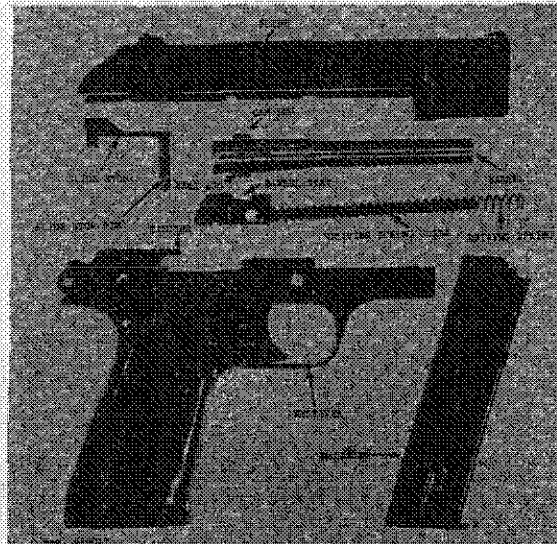
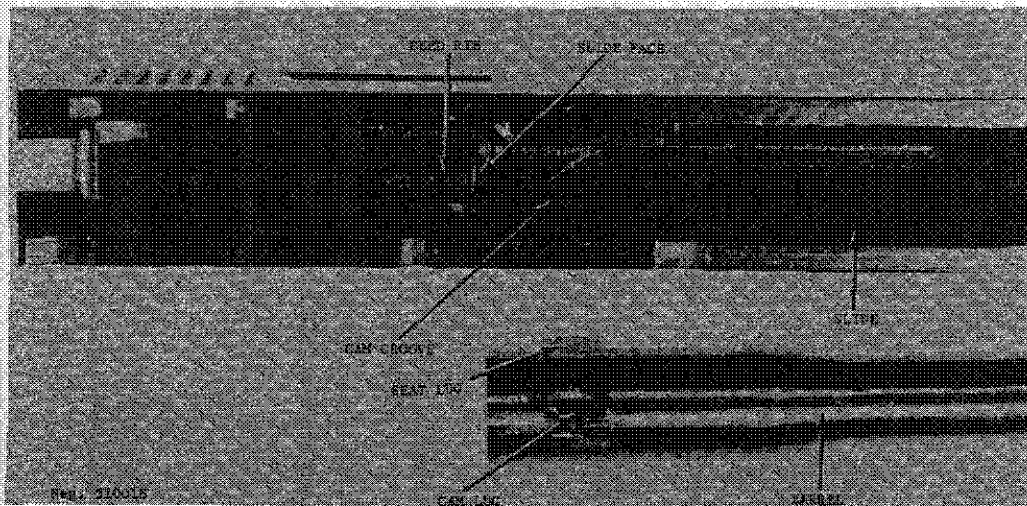

Figure 18. M.A.B. P15S disassembled.
Figure 19. M.A.B. P15 barrel and slide.
a. To disassemble the P15 pistol, first clear it (para 27d) but do not insert the magazine or press the trigger. Apply strong finger pressure to the end of the slide stop pin (fig 18) and, while applying pressure, pull the slide (fig 16) about 1/4 inch to the rear. The slide stop (fig 16) will move out to the left a short distance; pull it completely out.
b. Pull the slide forward, off the receiver. Turn the slide upside down and press the driving spring guide and barrel seat (fig 18) toward the muzzle until they disengage and can be lifted out of the slide. Move the barrel (fig 18) forward about 5/16 inch, then pull it up and back until it can be lifted out of the slide.
d. To reassemble, insert the barrel into the slide, muzzle first, with the muzzle entering the hole in the front of the slide. Engage the cam lug with the cam groove in the top of the slide (fig 19). Seat the barrel fully into the slide and move the barrel back against the slide face (fig 19).
e. Insert the free end of the driving spring (fig 18) into its tunnel at the front end of the slide. Press the barrel seat forward until it slips over the seat lug on the barrel (fig 18).
and fire one cartridge. The rearward thrust of the fired cartridge drives the slide rearward; however, this rearward movement is delayed by the interaction of the cam lug on the barrel with the cam groove on the slide. The barrel seat is pinned to the receiver and engages the seat lug on the barrel (fig 19). This arrangement prevents back and forth barrel movement but does allow the barrel to rotate. The cam groove in the slide thus causes the barrel to rotate as the slide starts to recoil; this rotary motion delays the slide recoil until the gas pressure from the fired cartridge has subsided to a safe level. Residual gas pressure then drives the slide fully rearward, rocking the hammer back, compressing the driving spring and depressing the trigger bar. The extractor withdraws the fired cartridge and holds it to the slide face until the cartridge strikes the ejector (fig 18). The cartridge is then expelled out the ejection port, and when the rear of the lower part of the slide strikes the barrel seat, rearward movement ceases.
b. The compressed driving spring now expands and drives the slide forward. The feed rib (fig 19) drives the top cartridge out of the magazine, up the ramp on the rear of the barrel seat, and into the barrel. The cam groove then rotates the barrel and the extractor snaps into the rim of the cartridge. The trigger bar rises into its recess, and forward movement ceases.